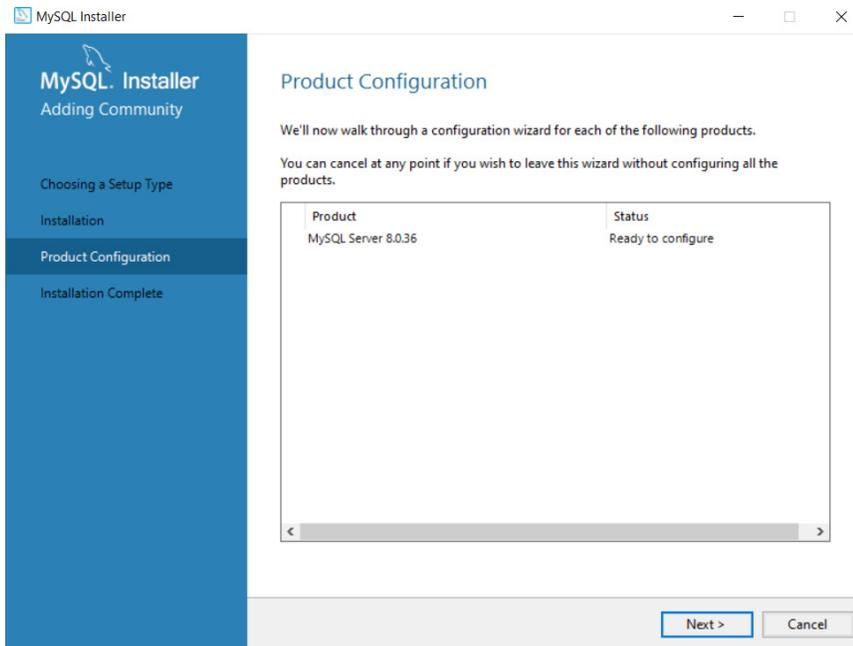

Figure A6
6. After the installation completes, click "Next" on the Product Configuration screen. (Figure A6)